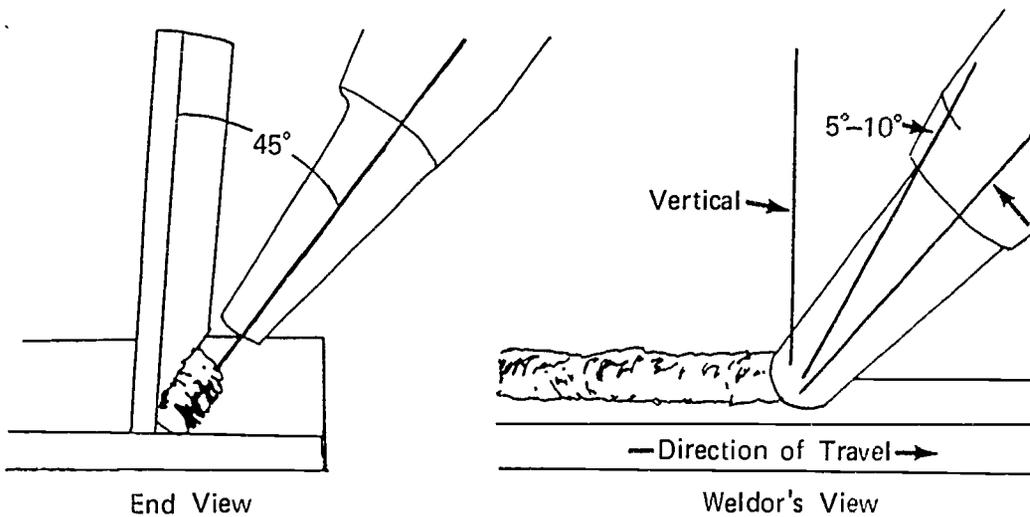

FIGURE 3
- F. Position gun at 45° side angle and $5^\circ-10^\circ$ in direction of travel for first and second bead (Figure 3)